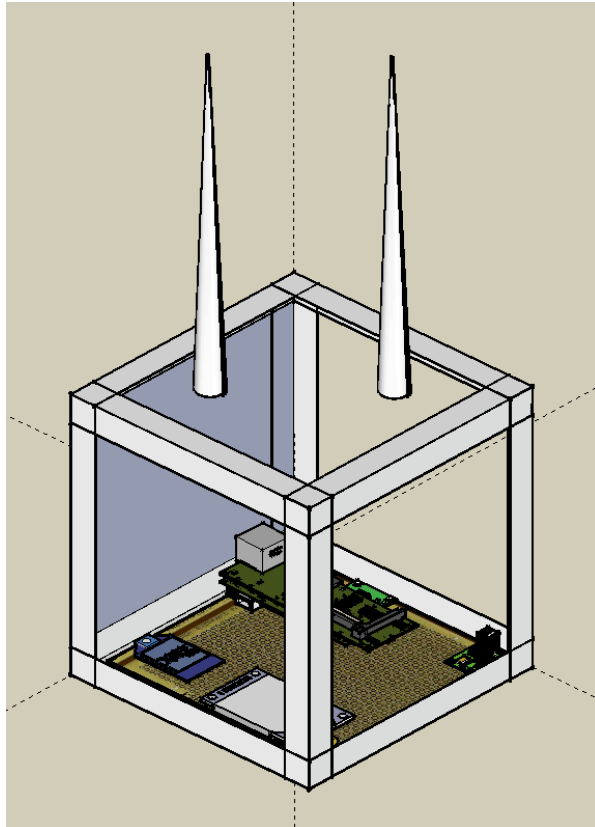
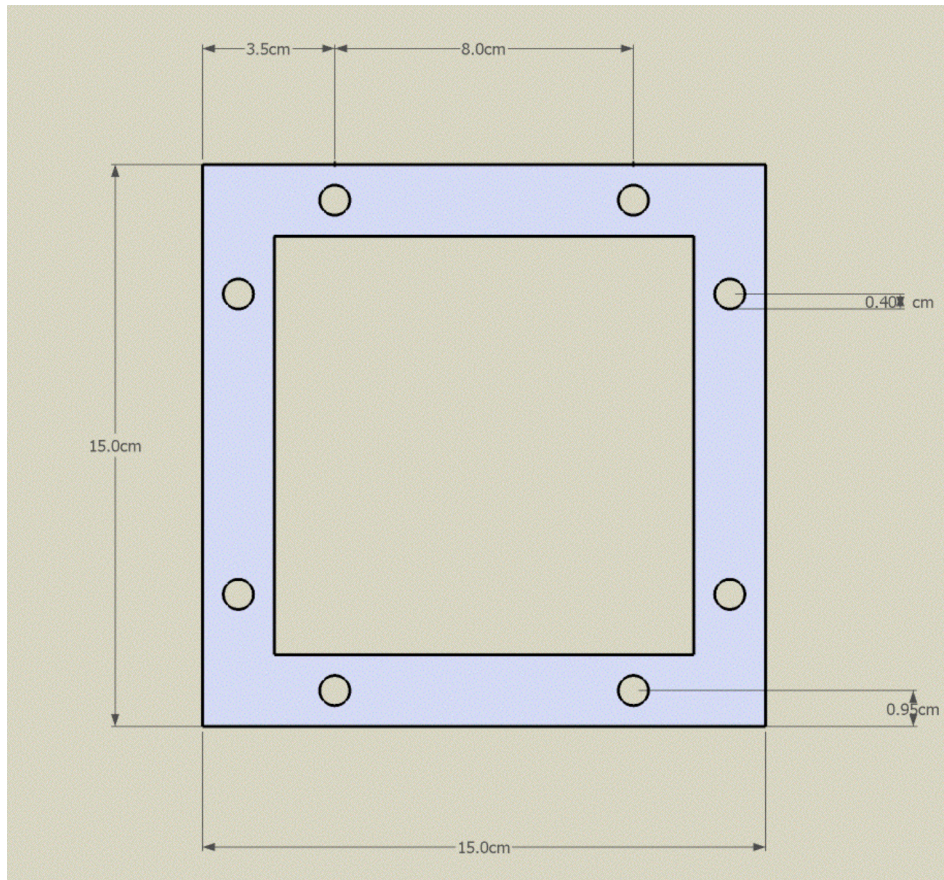

Figure 1: UMD/ABC Payload Sketch: circuit board is at the bottom; two antennas are shown on top; closure plates will be used on all 5 sides.
Figure 2: Diagram of hole pattern on mounting plate
The UMD/ABC Payload consists essentially of a rectangular aluminum box (15 cm x 15 cm x 15cm), inside which is housed a circuit board with a couple of protruding antennas (see figure 1). The rectangular box will be attached to the payload mounting plate using eight (8) bolts and nuts, secured with loctite. The hole pattern (2 fasteners, 8 cm apart, on each side of the square footprint of the payload, as shown in figure 2) will be match drilled from the payload base frame into the mounting plate, and washers will be used on both sides of the assembly.